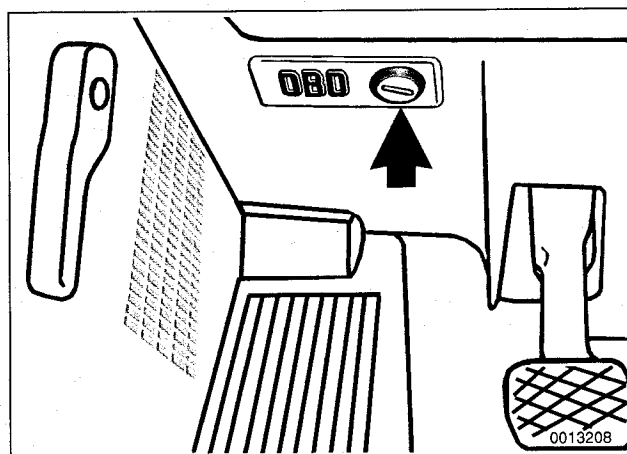

Fig. 1. OBD II diagnostic connector location.
- The 16-pin OBD II diagnostic connector is located on the lower left dash panel. See Fig. 1.
- The 16-pin OBD II diagnostic connector is located on the lower left dash panel. Refer to Fig. 1.